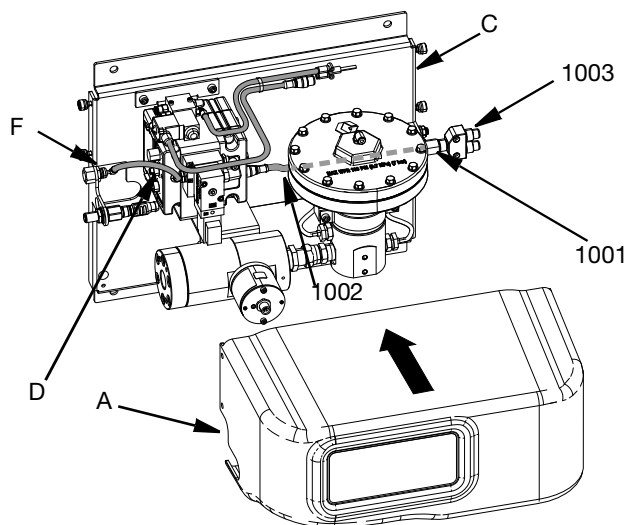

FIG. 9
5. Insert the regulator air line (D) into the incoming air elbow fitting (F).
6. Install the M12 thru connector (1001) into the PCF fluid mounting plate (C).
8. Reinstall the PCF cover (A). See FIG. 9.